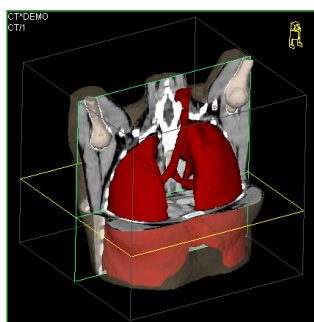

Figure 312 – 3D view
- To display ROIs in 3D view (see Figure 312), click the **3D** button.